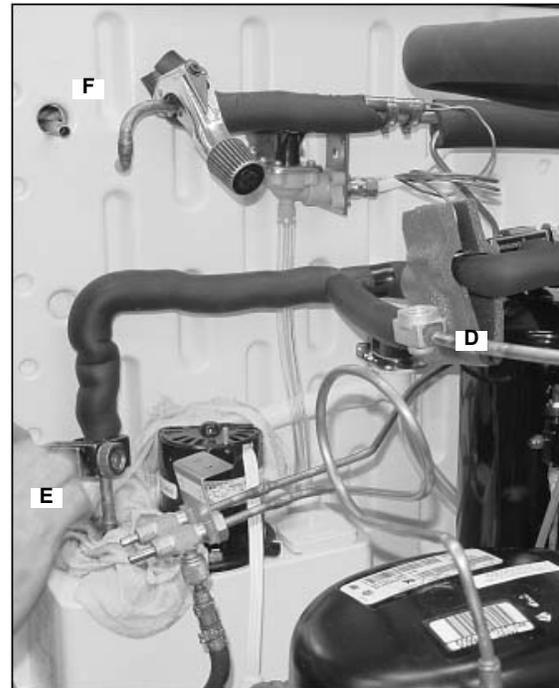

Figure 35.
Disassemble the hot gas valve (D) to allow nitrogen to flow through the system (Figure 35).
34. Using clamps or other means, secure the insulation away from the joints, and braze the Heat Exchange Suction Line to the evaporator inlet (E) and outlet (F) (Figure 35).